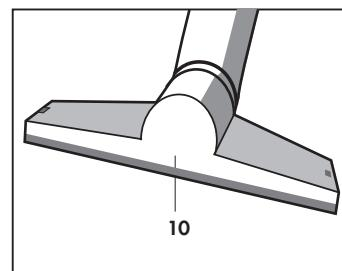

Fig. 13
- The multipurpose brush consists of a universal element (10) (**Fig. 13**) to which the following parts can be fitted as needed: